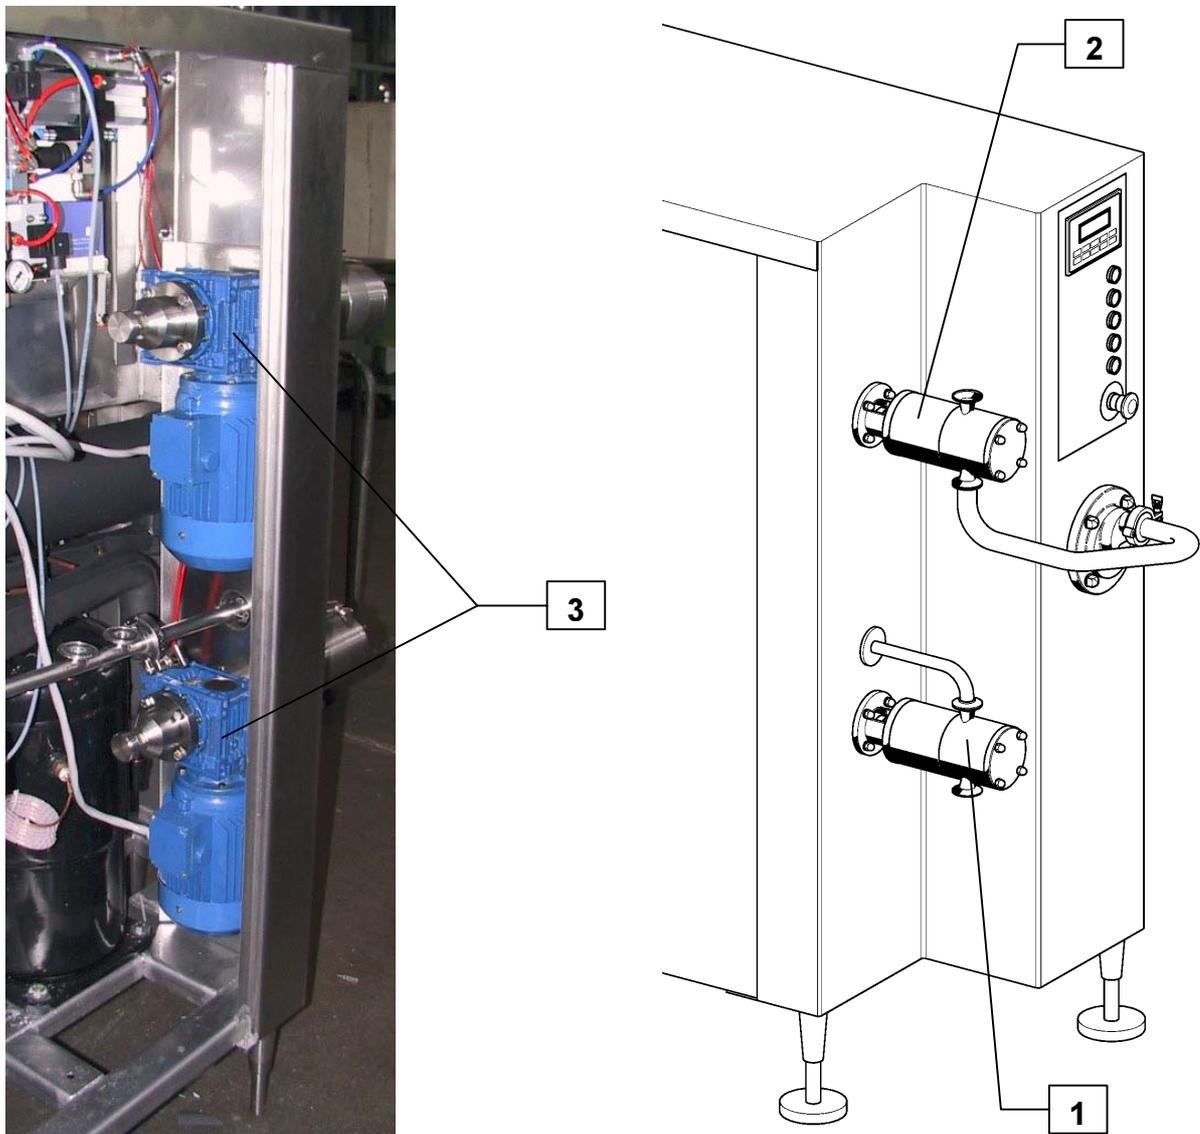

Fig. 3-4 – Pumps
The first one (Fig. 3-4 pos. 1) introduces the mixture supplied by the customer into the freezing cylinder, whereas the second one (Fig. 3-4 pos. 2) sends ice cream to the freezing cylinder of the working machine through the feeding pipe (not supplied).
The pumps are operated by ratiomotors (Fig. 3-4 pos. 3), each of which is controlled by an inverter (permitting this way the automatic speed control).